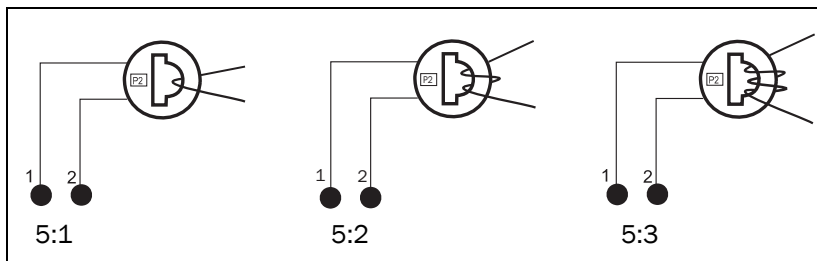

Fig. 5 Example 1, 2 and 3 windings.
Fig. 5 shows the different types of current transformer (CT) windings. In Fig. 5:1 the motor wire is just drawn through the CT, in the text and tables below this is described as 1 (one) winding. Fig. 5:2 shows a CT with 2 windings and Fig. 5:3, 3 windings. In other words the number windings is equal to the number of times the motor wire "L1" is drawn through the hole of the current transformer.